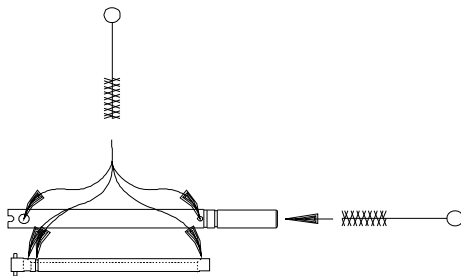

Figure 7-5 Clean the mix feed tube
- a. the mix feed tube and regulator main bore and cross holes (figure 7-5)